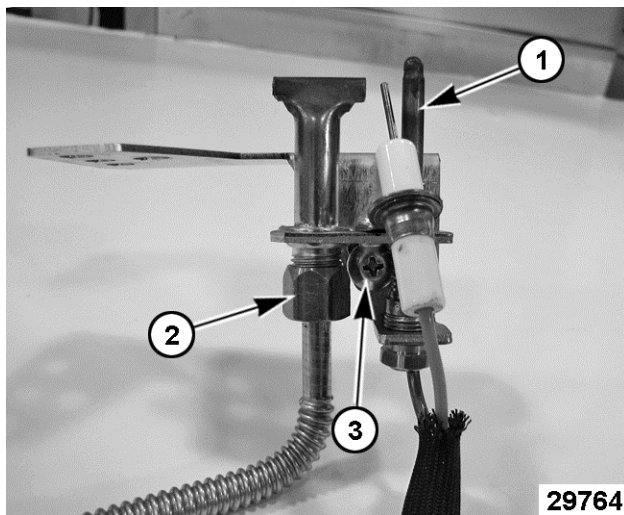

Fig. 103
9. If replacing thermocouple only, remove thermocouple (1, Fig. 103) from pilot assembly. Continue to last step.
10. If replacing pilot assembly, remove pilot flex (2, Fig. 103) tube and thermocouple (1, Fig. 103).
A. Remove screw (3, Fig. 103) securing pilot assembly to mounting bracket.